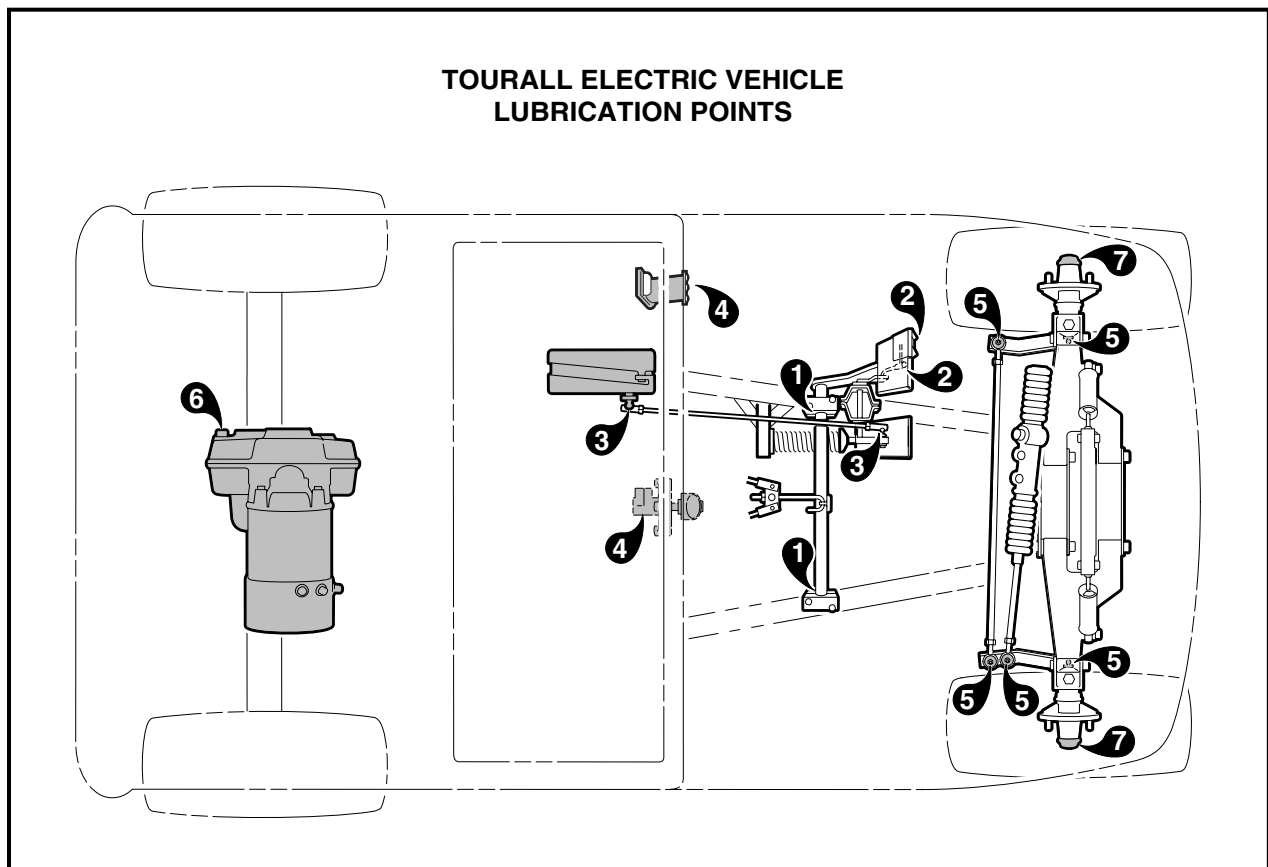
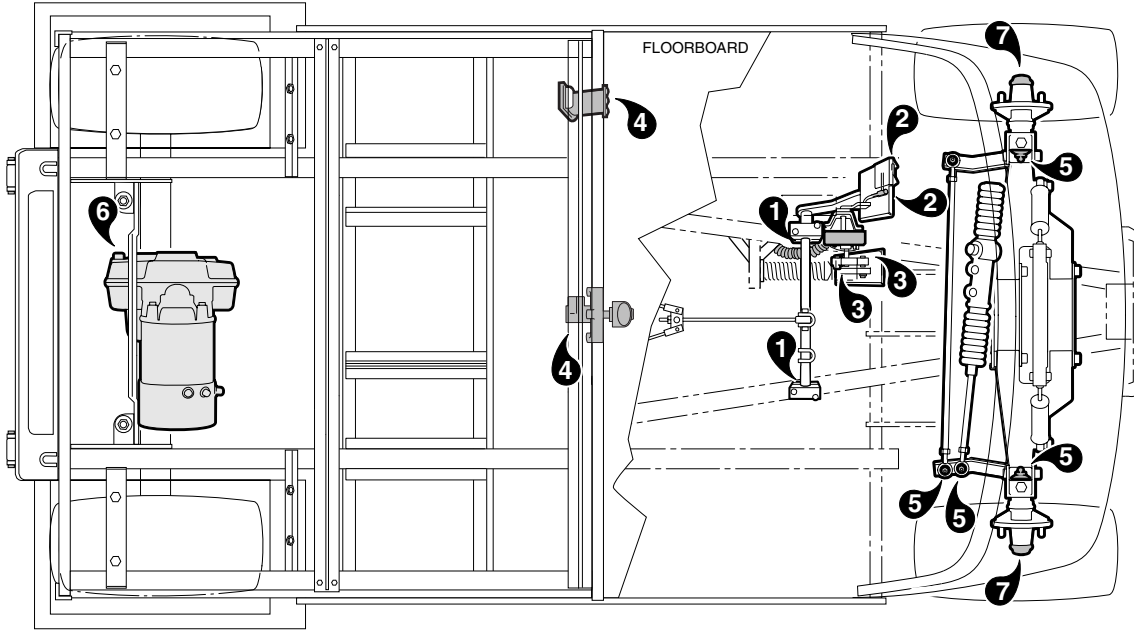

FIGURE 27
FIGURE 28
*See Figure 27, for the Tourall electric vehicle. See Figure 28, Page 44 for Trans-Porter, Trans-Sender and Resort Villager electric vehicles.